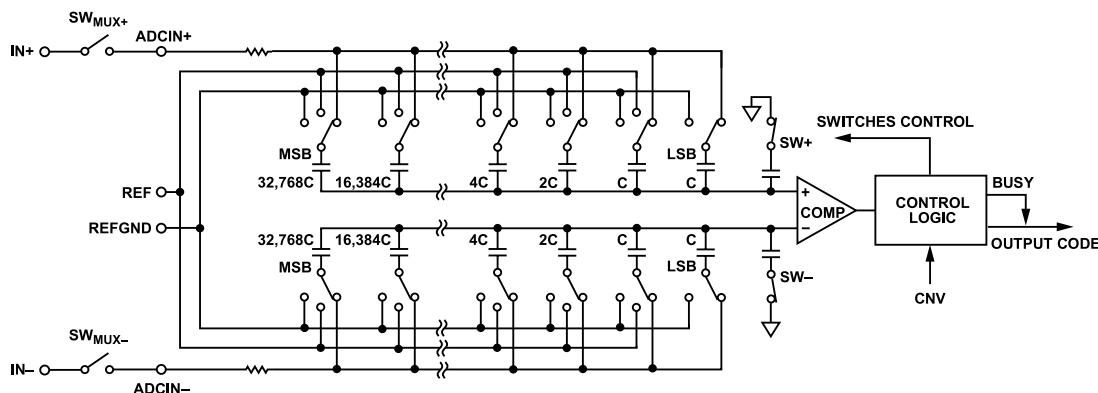
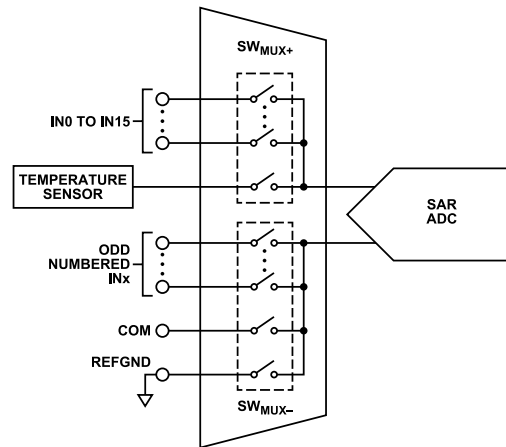
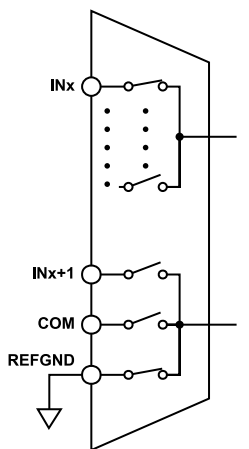

Figure 64. ADC Simplified Schematic
Figure 68. Multiplexer Simplified Schematic
Figure 69. INx Paired with REFGND
The AD4695/AD4696 contain an SAR-based ADC core that utilizes a charge redistribution digital-to-analog-converter (DAC) to quantize the applied input voltage to an output code. Figure 64 shows a simplified schematic of the AD4695/AD4696 SAR ADC core.
The analog inputs and the temperature sensor are connected to the capacitor array inputs (ADCIN+ and ADCIN-) via the internal low crosstalk multiplexer, represented by SW_{MUX+} and SW_{MUX-} in Figure 64. The multiplexer switches are controlled by the internal channel sequencing logic and are updated once per conversion (see the Multiplexer section and the Channel Sequencing Modes section).
A low crosstalk analog multiplexer routes the signals from the analog input pins to the ADC core inputs. The impedance of the analog inputs is modeled as the parallel combination of the pin capacitance (C_{PIN}) and the network formed by the series connection of R_{IN} and C_{DAC} . R_{IN} represents the ADC input series resistance and the multiplexer switch resistance and is typically 240 Ω . C_{DAC} represents the ADC sampling capacitive DAC shown in Figure 64, and is typically 60 pF.
The AD4695/AD4696 contain a flexible, low crosstalk analog multiplexer for selecting from the 16 analog inputs and internal temperature sensor and routing them to the inputs of the 16-bit, pseudo differential SAR ADC core. Figure 68 shows a simplified schematic of the internal multiplexer. The SW_{MUX+} and SW_{MUX-} switches shown in Figure 64 and Figure 68 represent the multiplexer switches that route the selected channel to the ADC inputs (labeled $ADCIN+$ and $ADCIN-$ in Figure 64). SW_{MUX+} and SW_{MUX-} are break-before-make and are controlled by the internal channel sequencing logic (see the Channel Sequencing Modes section).
The multiplexer allows flexible analog input channel configuration. The SW_{MUX-} position is user programmable, and can be assigned to any of the pins shown in Figure 68 (see the Channel Configuration Options section).
The channel configuration settings include pin pairing assignments and signal polarity modes. The pin pairing options assign the position of SW_{MUX-} for each position of SW_{MUX+} and determine which signal is routed to the negative side of the SAR ADC core ($ADCIN-$ in Figure 64). The signal polarity modes configure the $ADCIN-$ voltage range. Figure 69 shows the pin pairing and voltage ranges for the different channel configuration options.
- ▶ Figure 69, IN0 to IN15 paired with REF_GND
When the temperature sensor is selected, the multiplexer $\text{SW}_{\text{MUX}+}$ switch (see Figure 68) selects the temperature sensor output and its $\text{SW}_{\text{MUX}-}$ switch selects REF_GND, and the SAR ADC core samples V_{TEMP} to generate a corresponding output code. The analog-to-digital conversion of the temperature sensor output utilizes the same transfer function as an analog input configured in unipolar mode with $\text{OSR} = 1$ (see the Transfer Function section).